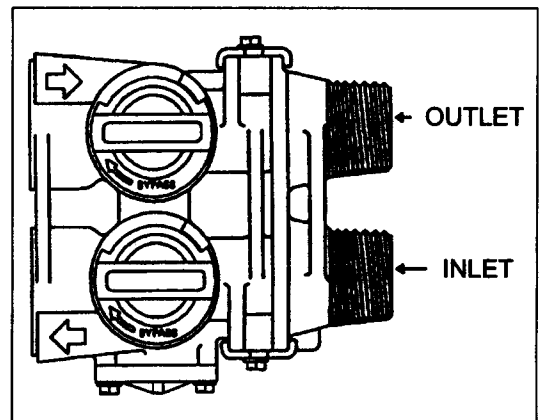

Figure 7
11. Wait approximately four (4) hours for water in brine tank to fully dissolve salt.
12. Move the bypass valve to the normal service position. (See Page 6, Figure 7)
## Manual Bypass (Figure 7)